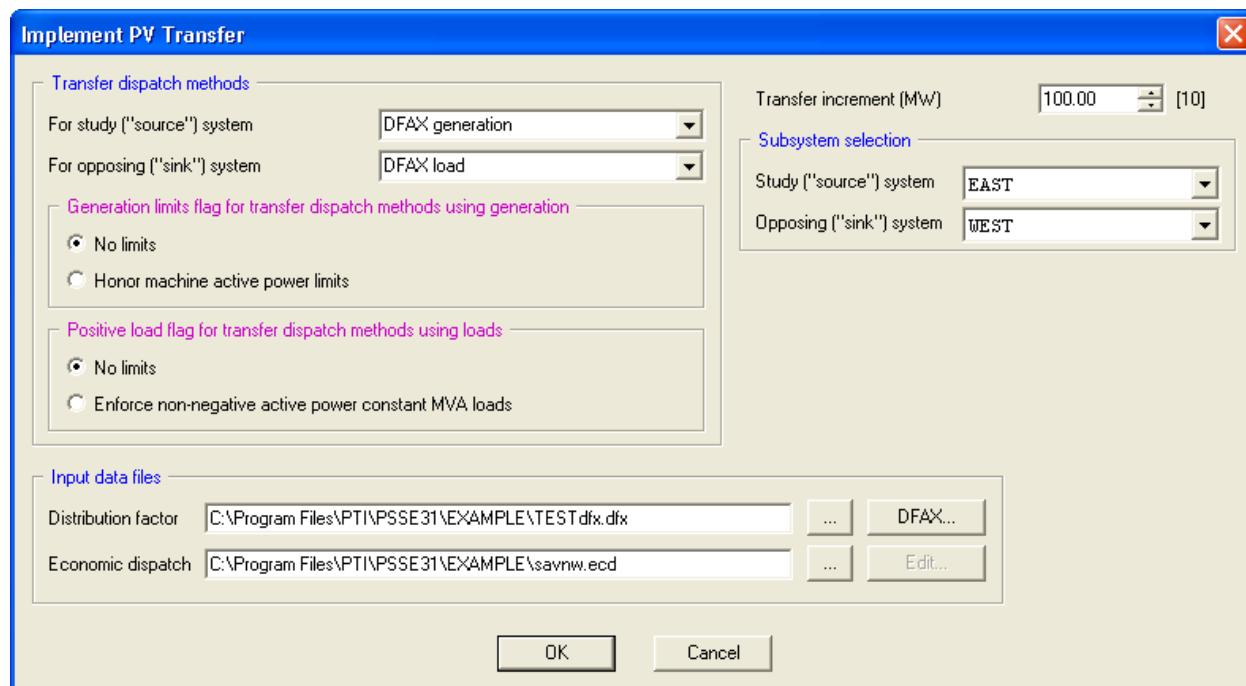

Figure 11.23. Implement PV Transfer Dialog
1. Select *Power Flow > Solution > Implement PV transfer...* to open the [*Implement PV Transfer*] dialog containing default settings (see Figure 11.23, "Implement PV Transfer Dialog ").